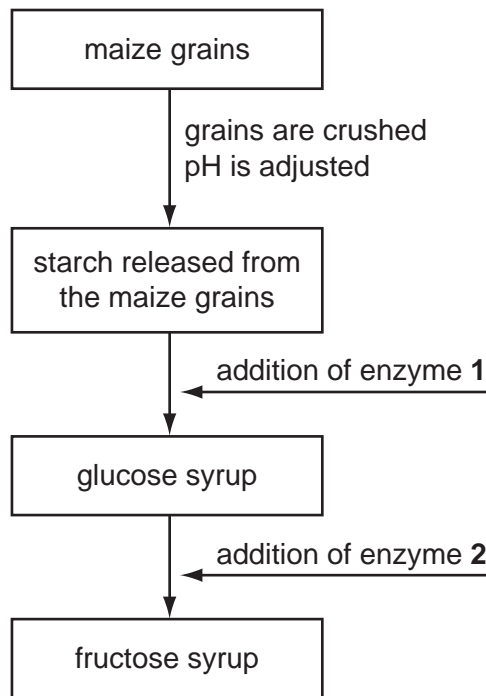

Fig. 3.1
The flow chart in Fig. 3.1 shows how fructose is prepared from maize starch.
- (b) Maize grains contain protease enzymes. With reference to the processes shown in Fig. 3.1, suggest why it is important that these enzymes do not contaminate the glucose syrup.